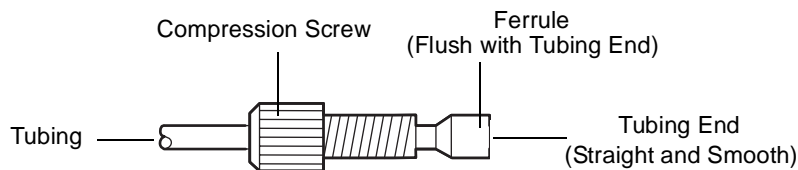

Figure 2-3 Reverse Ferrule and Compression Screw Assembly
4. Slide a compression screw over one end of the tubing, followed by a ferrule with its tapered end facing away from the tubing end, and its wide end flush with the tubing end, as shown in Figure 2-3.